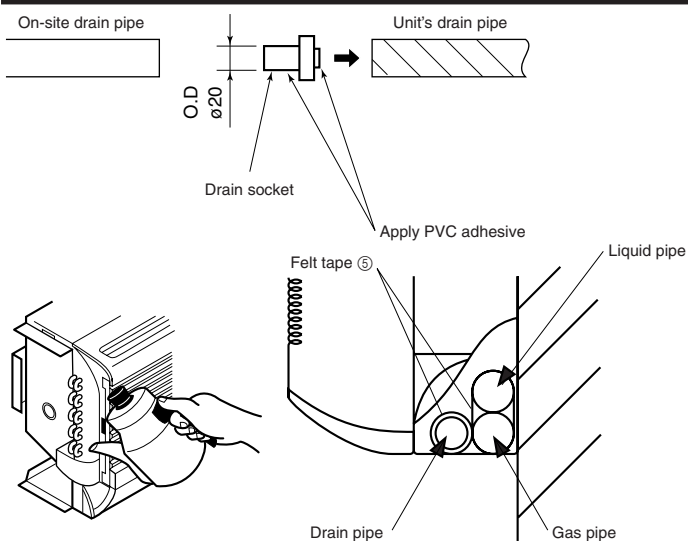

Fig. 5-1
5. Drainage piping work (Fig. 5-1)